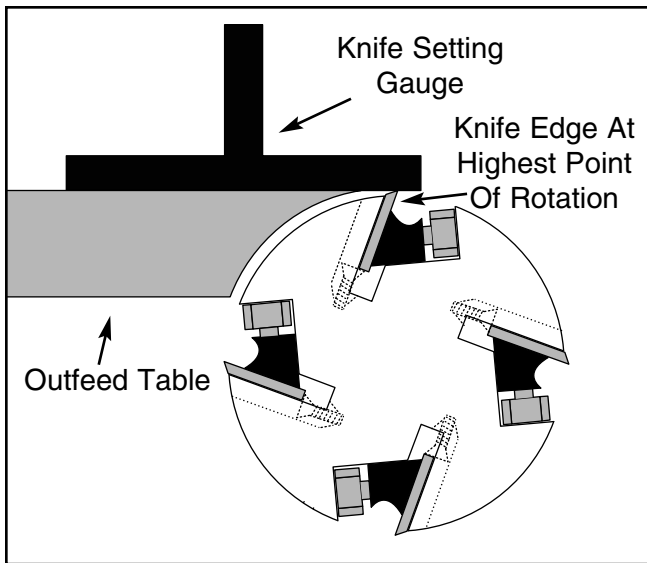

Figure 36. Checking knife with the knife setting gauge.
7. Position the knife setting gauge on the outfeed table so that it extends over the cutterhead as shown in **Figure 36**, and loosen the gib bolts until the knife is completely loose.